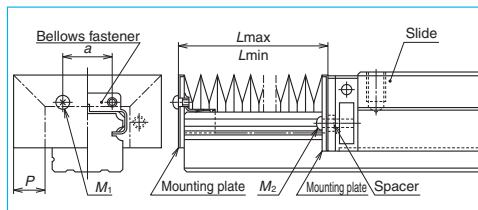

Fig. 7.7
* Fixing to the ball slide (Fig. 7.7)
- Remove two machine screws (M_1) which secure the end seals to the end of the slide (Fig. 7.7). For NS15 and DS15, hold the end cap by hand. Otherwise, the end cap is detached from the ball slide, and the balls inside may spill out.
(5) Bellows
- To install bellows for NH, NS, DH, and DS Models lightly knock a fastener exclusively for bellows to the end of the rail (Fig. 7.7). Then secure the mounting plate to the end of the bellows through the tap hole of the fastener.